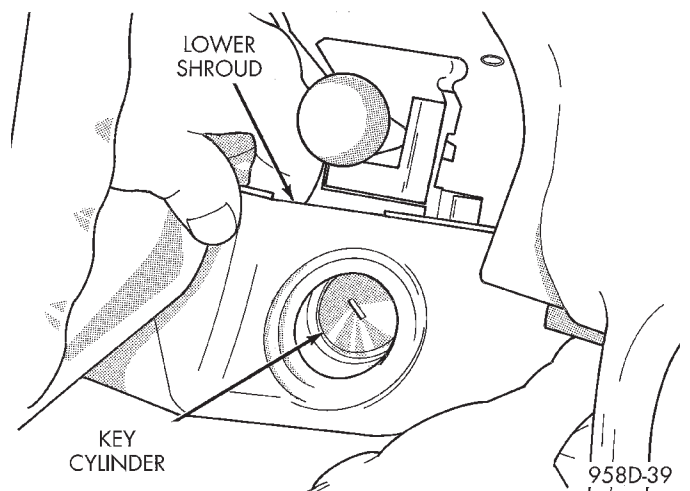

Fig. 56 Remove Lower Shroud From Ignition Cylinder
(8) Pull lower shroud to clear ignition cylinder and key release, if equipped (Fig. 56).